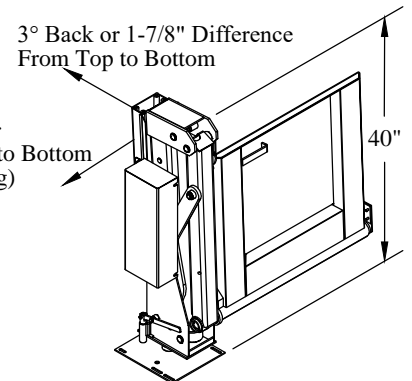
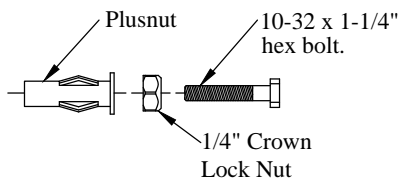

Figure 10: Liftgate properly tipped.
Figure 11: Plusnut parts.
5. **Position** the liftgate so it is tipped 3 degrees back and 1 degree to the left (Figure 10).
8. **Locate** and **Drill** eight (8) 5/16" holes into the rear door header, using the top angle bracket as a guide. Choose eight (8) of the angle bracket holes without obstructions.
9. **Assemble** the Plusnut with the 1/4" crown lock nut and 10-32 x 1-1/4" hex bolt (Figure 11)